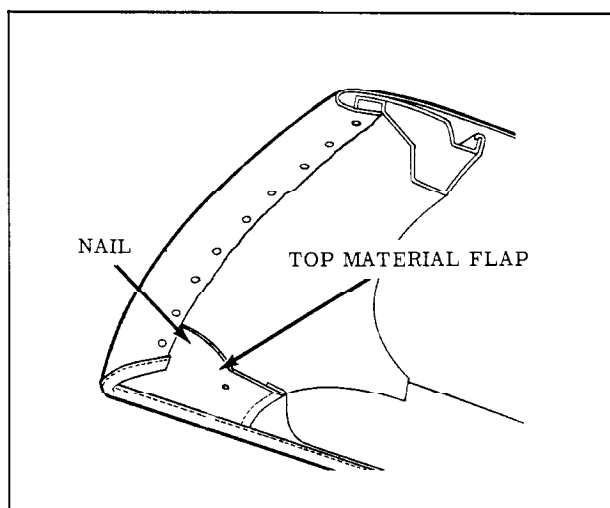

Fig. 17-21 Top Material Attachment to Roof Rail
4. Loosen front end of each side roof rail front weatherstrip sufficiently to detach top material flaps which are nailed and cemented to rails. (Fig. 17-21)